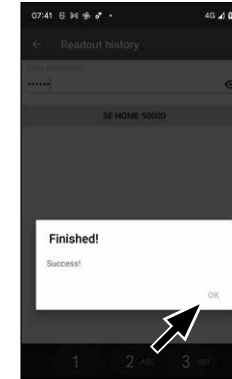

Fig. 93
- 8 After retrieval, a confirmation message appears, which you confirm with "OK" (Fig. 93).